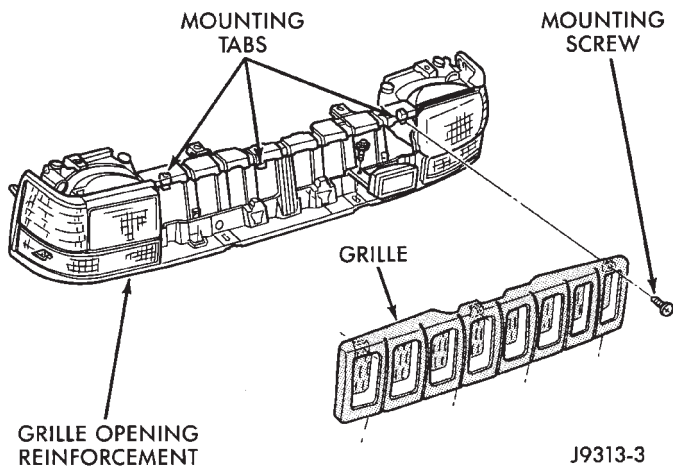
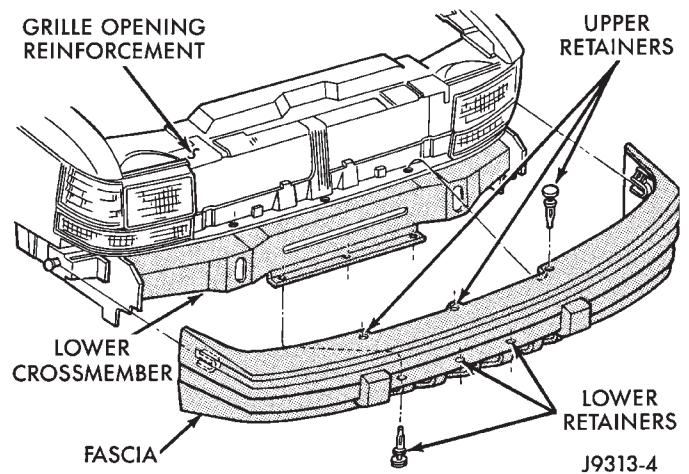

Fig. 1 Grille Removal
Fig. 2 Lower Fascia Removal
- (1) Remove 3 grille screws at grille opening reinforcement (GOR) (Fig. 1).
- (2) Unsnap lower clips at grille. Remove grille from (GOR).
- (3) Remove turn signals, side markers and headlamps. Refer to Group 8L, Lamps for service information.
- (4) Remove the 6 retainers at the front fascia (Fig. 2).
- (6) Slide the fascia off of the retainer pegs at the side of the fender attach brackets. Using a small screwdriver, pull up on locating tangs under turn signal mounting location.
- (7) Remove the fascia from the vehicle (Fig. 2).